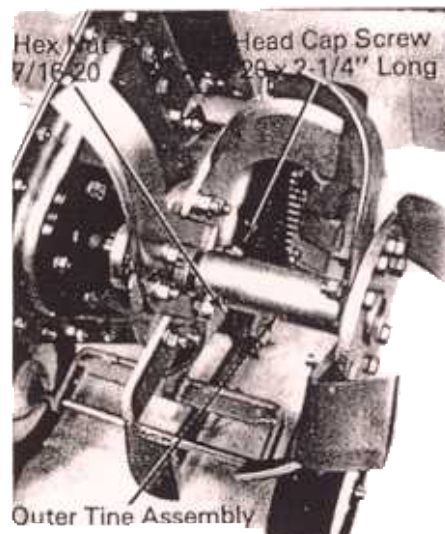

Figure 2
- 1 Place the first outer tine assembly on the tine shaft and fasten with the two hex head cap screws 7/16-20 x 2 1/4" long and two hex locknuts 7/16-20. Repeat for the second tine assembly. (See figure 2.)